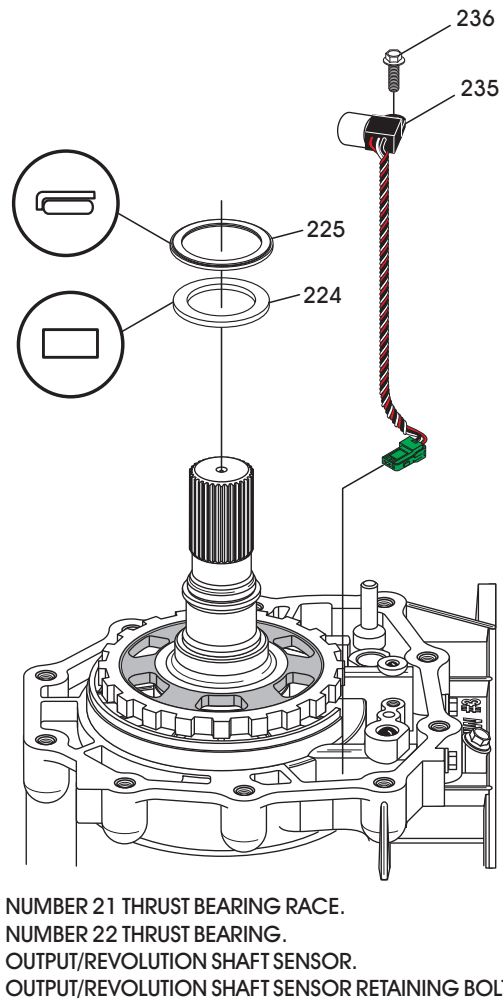

Figure 55
48. Remove the number 21 thrust bearing race and the number 22 thrust bearing (See Figure 55).
49. Remove the output/revolution sensor, as shown in Figure 55.